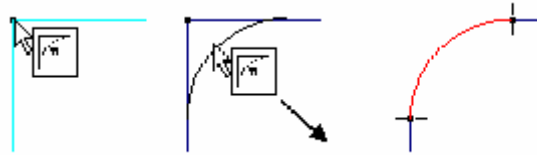

Figure 20 - Creating a fillet
- 7) Next, select the **Arc** tool from the **Line** menu and create a few fillets on your wing. Refer to Fig 20 on creating fillets. Fillets are another term for radius.